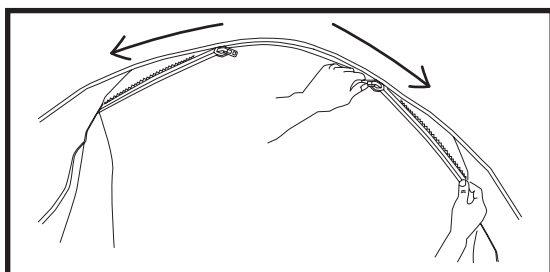

Fig. 5
8. Zip the wall and roof with the zipper starting from the center and heading down (Fig. 5).